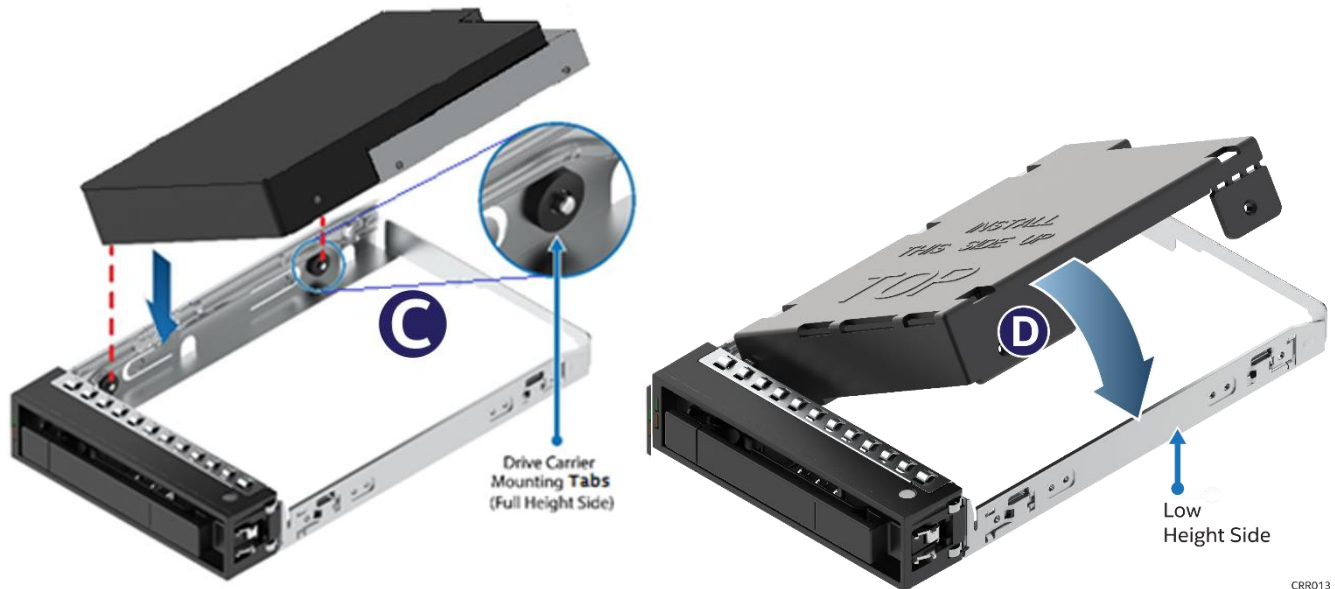

Figure 39. Installing a 2.5" SSD in a 3.5" drive carrier – mount bracket assembly to carrier
4. With the rear drive connector positioned towards the back of the drive carrier, align the mounting holes on the left side of the drive over the mounting tabs located on the drive carrier side rail (Figure 39, C).
5. Lower the other side of the drive into the carrier and press down on the drive until all mounting tabs lock in place (Figure 39, D).